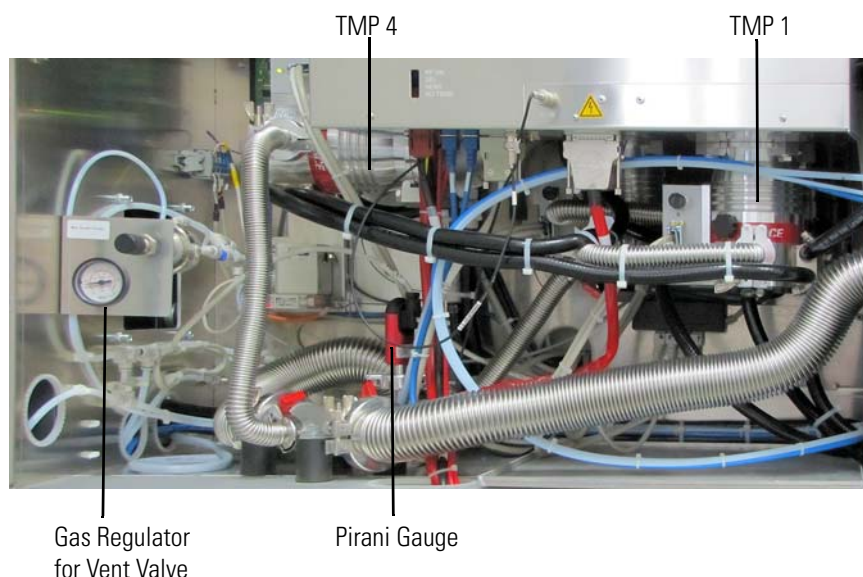
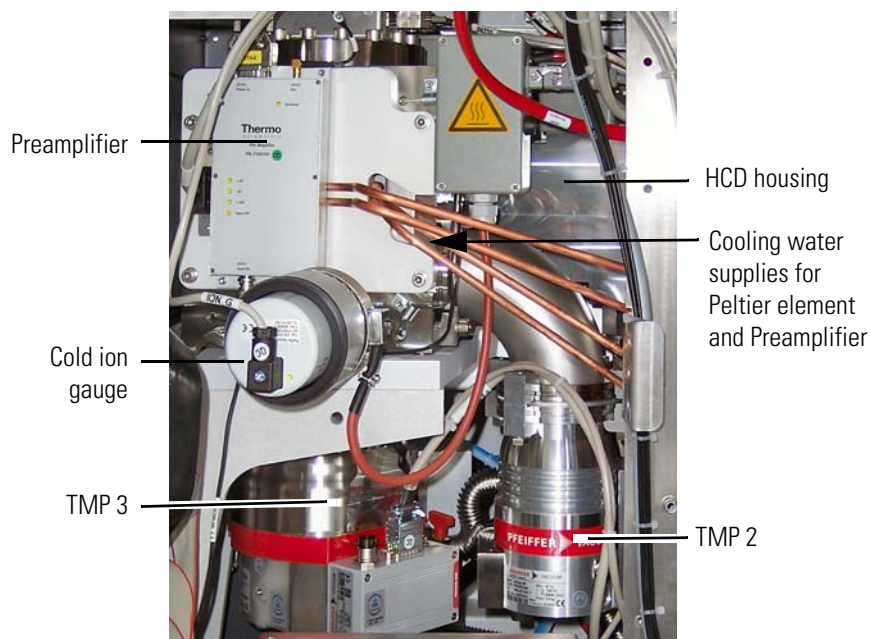

Figure 2-23. Vacuum components on the left instrument side
Figure 2-24. Vacuum components on the right instrument side
All parts of the system except for the Orbitrap analyzer are mounted in a aluminum vacuum chamber that is evacuated by a 60 L/s turbomolecular pump (TMP 1, see Figure 2-23). The rotary vane pumps of the linear trap (see page 2-33) provide the forevacuum for this pump. This chamber is bolted to a stainless steel welded UHV chamber, which accommodates Orbitrap analyzer, lenses, and corresponding electrical connections.
The UHV chamber is evacuated down to 10^{-8} mbar pressure range by a 60 L/s UHV turbomolecular pump (*TMP 2*, see Figure 2-24 on page 2-32). The Orbitrap analyzer itself is separated from the UHV chamber by differential apertures and is evacuated down to 10^{-10} mbar by a 260 L/s turbomolecular pump (*TMP 3*, see Figure 2-24). The HCD housing is evacuated by a 60 L/s UHV turbomolecular pump (*TMP 4*, see Figure 2-23) that is mounted to its bottom via an elbow. This dedicated pump for the HCD cell protects the low pressure cell of the linear trap from gas overload.
- The forevacuum of the Orbitrap Elite mass spectrometer is monitored by an Active Pirani gauge (TPR 280, manufacturer: Pfeiffer) connected to the forevacuum line. See Figure 2-23 on page 2-31.
- The high vacuum of the Orbitrap Elite mass spectrometer is monitored by a Cold Ion Gauge (IKR 270, manufacturer: Pfeiffer) connected to the UHV chamber. See Figure 2-24 on page 2-32. Because the gauge would be contaminated at higher pressures, it is switched on only when the forevacuum has fallen below a safety threshold ($<10^{-2}$ mbar).